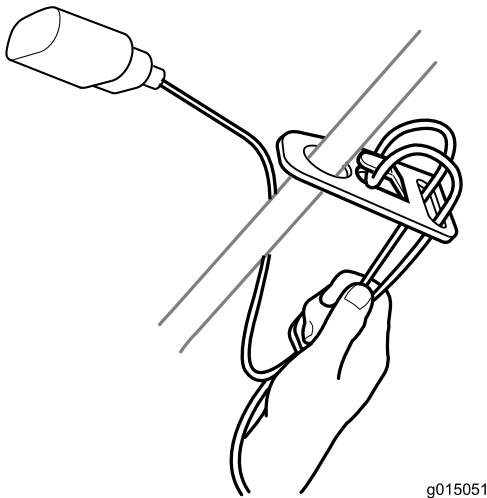

Figure 7
1. Form a loop in the extension cord and secure it in the cord lock (Figure 7).